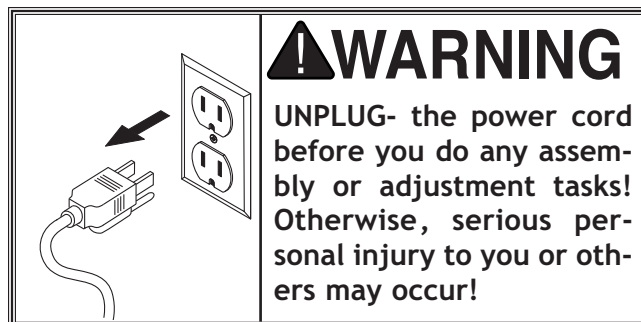

Figure 11. Tightening face plate to headstock spindle.
3. Tighten the face plate by placing a wrench on the spindle flats and inserting the knock-out tool into the spindle shoulder to hold it in position during tightening. See **Figure 11**.